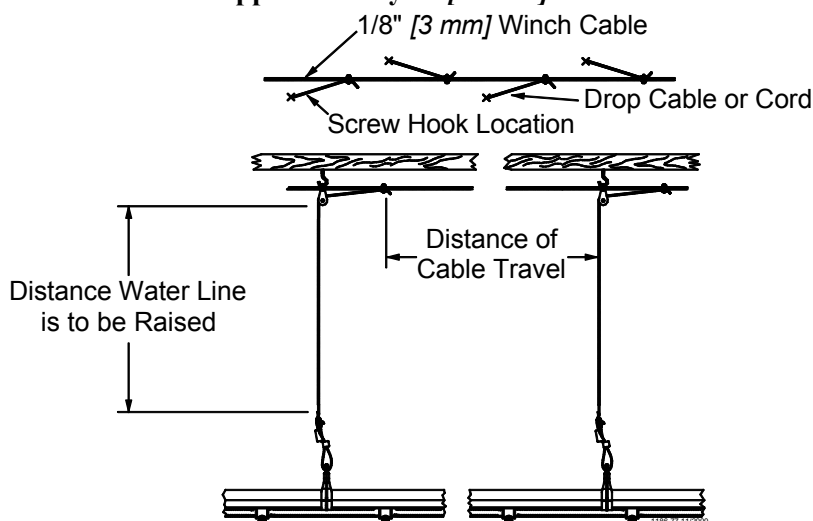

Figure 4. Offset the Screw/Ceiling Hooks (side view)
4. Mount the Split Drum Winch as shown in **Figure 4**. Mount the winch to the ceiling or on a 2x8" [50x200 mm] board spanning at least two rafters for support. Use at least (4) 1/4" lag screws (not supplied) to secure winch to support.